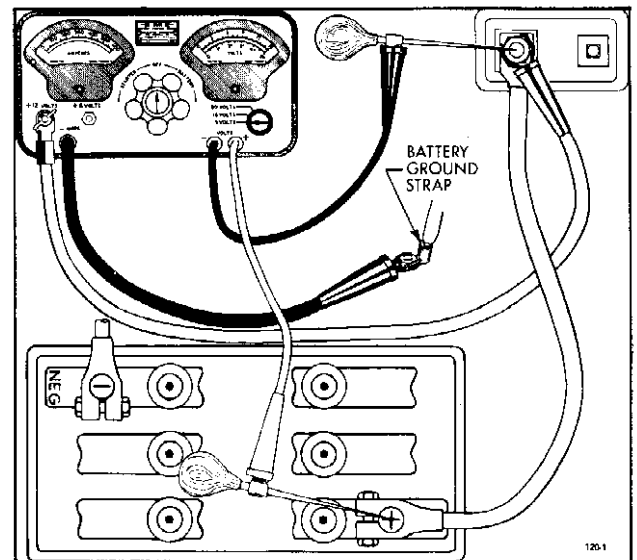

Figure 120-1 Battery, Cable Test Connections
2. Connect ammeter positive lead to post on starting motor. Connect ammeter negative lead to one side of rheostat and connect other side of rheostat to ground on engine, preferably at point where battery ground strap is attached. In the instrument shown in Figure 120-1 the ammeter and rheostat are connected in series inside the case.
3. Connect voltmeter negative lead to post on starting motor. Use prod with voltmeter lead, if necessary, to insure direct contact with the terminal stud. Do not connect to the ammeter lead clip. Attach a prod to voltmeter positive lead and apply the prod to center of battery positive post. See Figure 120-1. Make sure that clips of voltmeter leads have clean metal contact with prods.